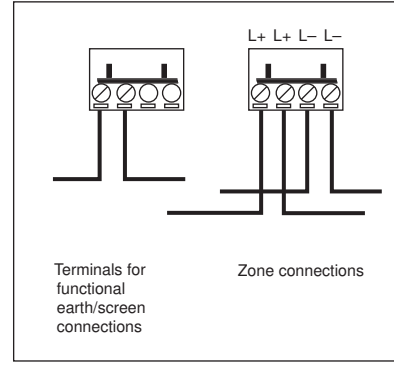

Fig 3 Terminal block connections
- 2. Run the cables into the backbox and connect them to the terminal blocks as shown in **Fig 3**. Ensure that functional earth/screen continuity is maintained. Screens should be connected to the yellow terminal block marked 1–4 on the black PCB cover.
- 4. Unlock the small front cover by inserting the forked key and pushing it home. Remove key, slide the cover down and remove the deformable element. Connect the terminal blocks as shown in Fig. 3, secure the call point to the backbox and refit the deformable element as required. Finally, replace the front cover in the reverse order in which it was removed and push it up until it locks.